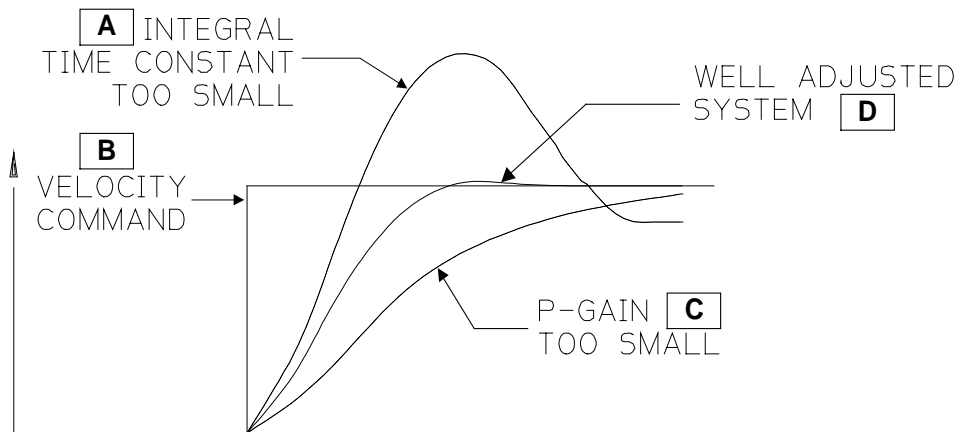

FIGURE 4.64 Standard Velocity Mode Tuning Wave Forms
- ❑ Use the **P** command to re-enter the gain adjust mode. Use the **U** command to improve the slope of the step response. FIGURE 4.64 illustrates the velocity wave form for a properly tuned loop.